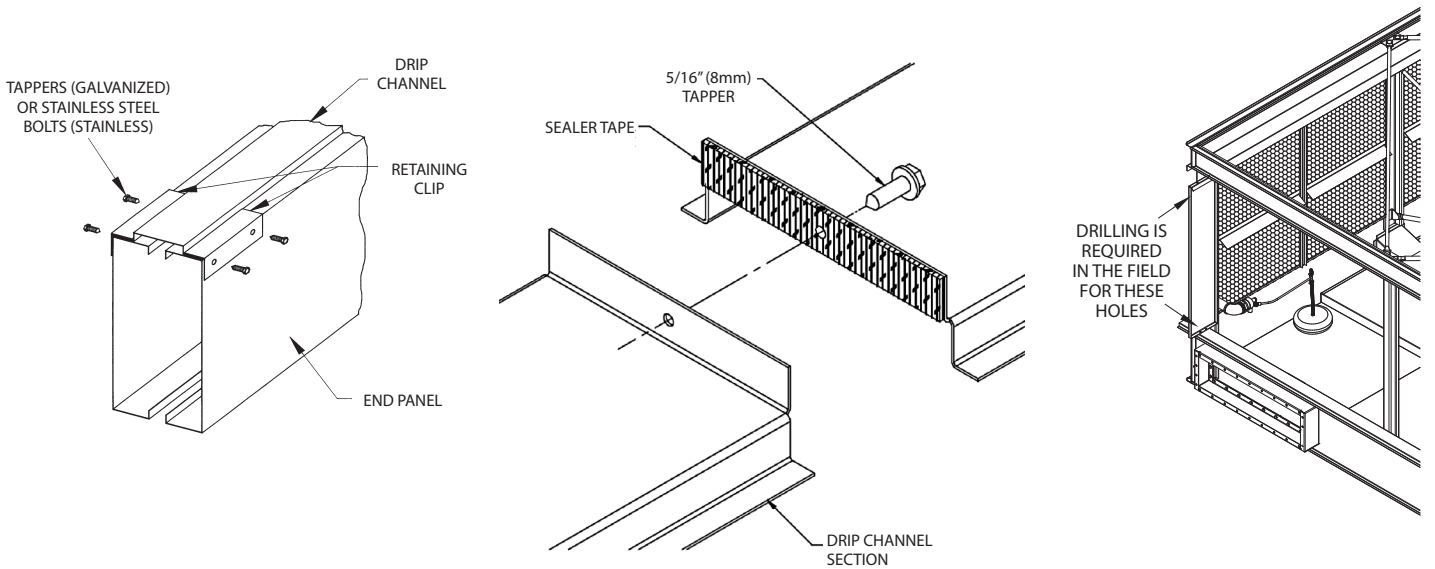

Figure 3a - Drip Channel and Vertical Splash Guard Installation
10. Place the vertical splash guard in the bend of the vertical supports. On galvanized units, attach the vertical splash guard using 5/16" (8mm) self-tapping screws. On stainless steel units, attach the vertical splash guards using 5/16" (8mm) stainless steel nuts and bolts. (See figure 3a)
11. Once the bottom of the vertical splash guard has been attached to the drip channel, place the filler cap channel in the upper flanges of the bottom section as shown in Figure 3a. Attach to vertical splash guards using 5/16" (8mm) tappers (for galvanized units) or stainless steel nuts and bolts (for stainless steel units).